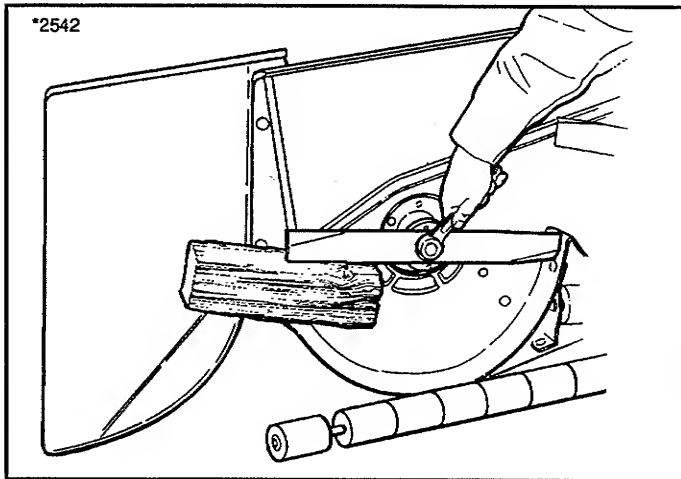

Figure 23. Removing The Blade
3. To remove blade for sharpening, use wooden block to hold blade while removing the blade mounting cap-screw (figure 23).